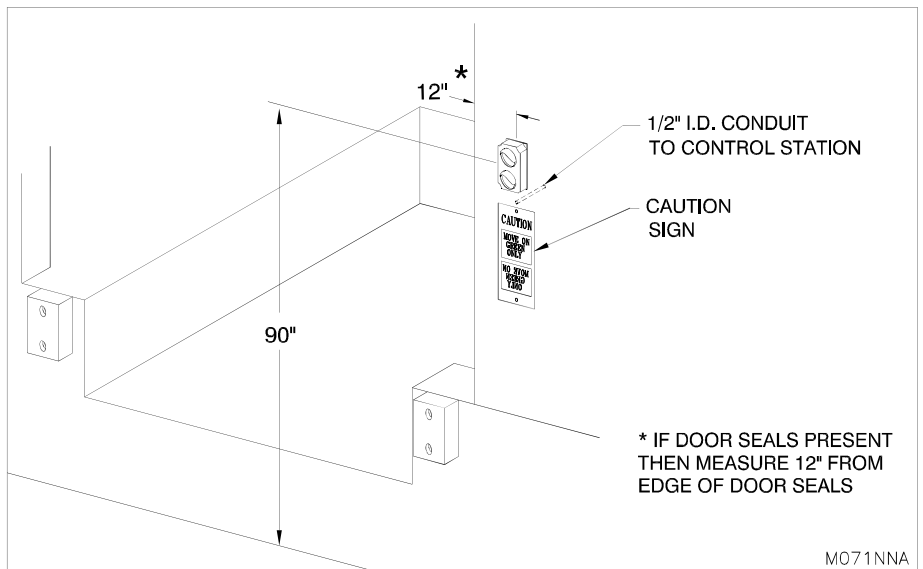

Figure 11: Light, Sign and Conduit Locations
3.  Mount outside light set approximately 90" high from the center of the light to the finished driveway level (see "Figure 11: Light, Sign and Conduit Locations" on page 13).